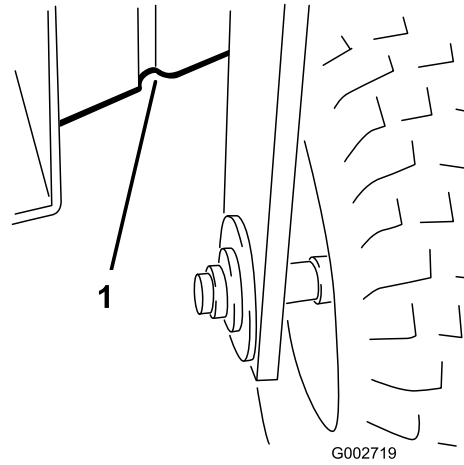

Figure 21
- Front—under the frame behind the front wheel (Figure 21).